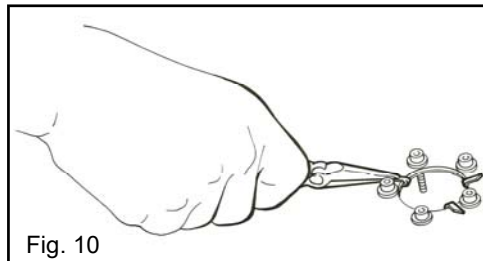

Fig. 10
- With the needle nose pliers, bend all three tabs up and over the tank edge as shown in Fig. 10. You don't have to bend the tabs over tightly, as long as they will hold the plate in place until the "Hot Fox" is installed. However, they must be pulled far enough to allow the warmer to slide into the opening.